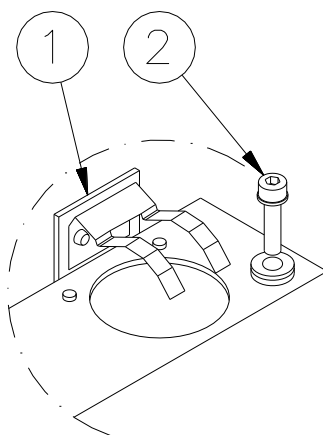

Figure 22 – Removing the Supporting Plate
- unscrew the screws HSCH M5x20 (Figure 22- n° 2) and remove the supporting plate (Figure 22 - n° 1)